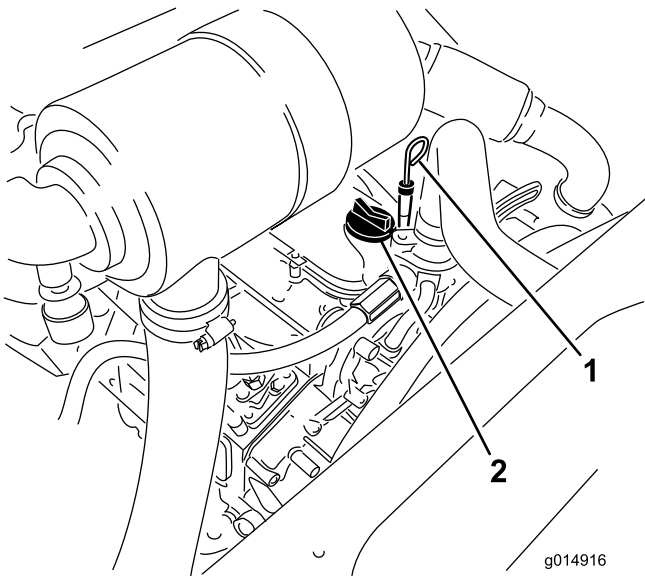

Figure 36
3. Remove the dipstick, wipe it clean, and install it (Figure 36).
5. If the oil level is below the Full mark, remove the fill cap (Figure 36) and add oil until level reaches the Full mark on dipstick.